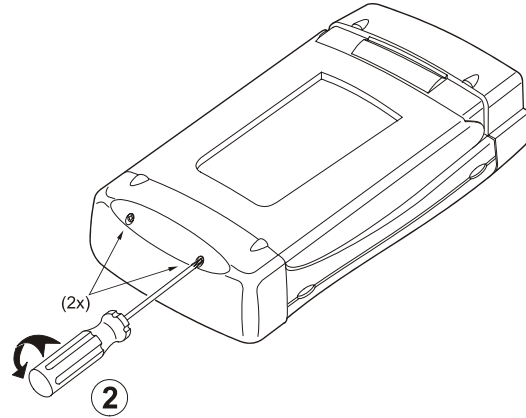

Figure 6-3. Loosen 2 Bottom Holster Screws
2. Loosen the two M3 Torx screws that secure the bottom holster (Figure 6-3).